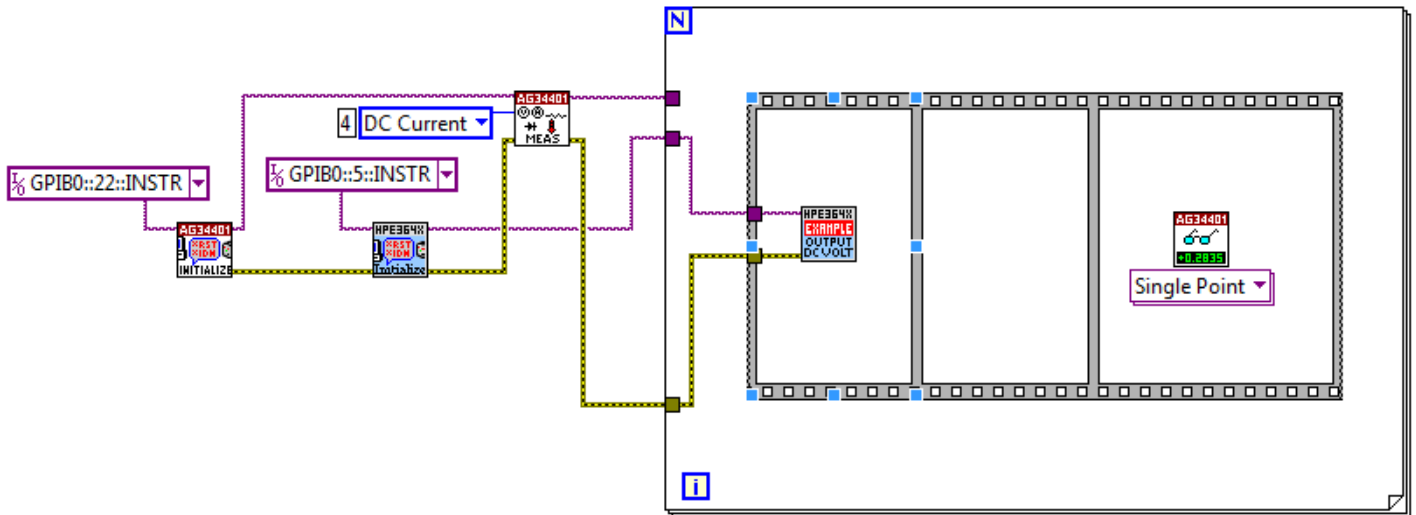

Figure 8. Diagram Schematic
- e. Then wire the **Error Out** of the **Agilent 34401 Configure Measurement** sub VI to the **Error In** of the **HPE364X Output DC Volt** sub VI. At this point your block diagram should look like the one in Figure 8.